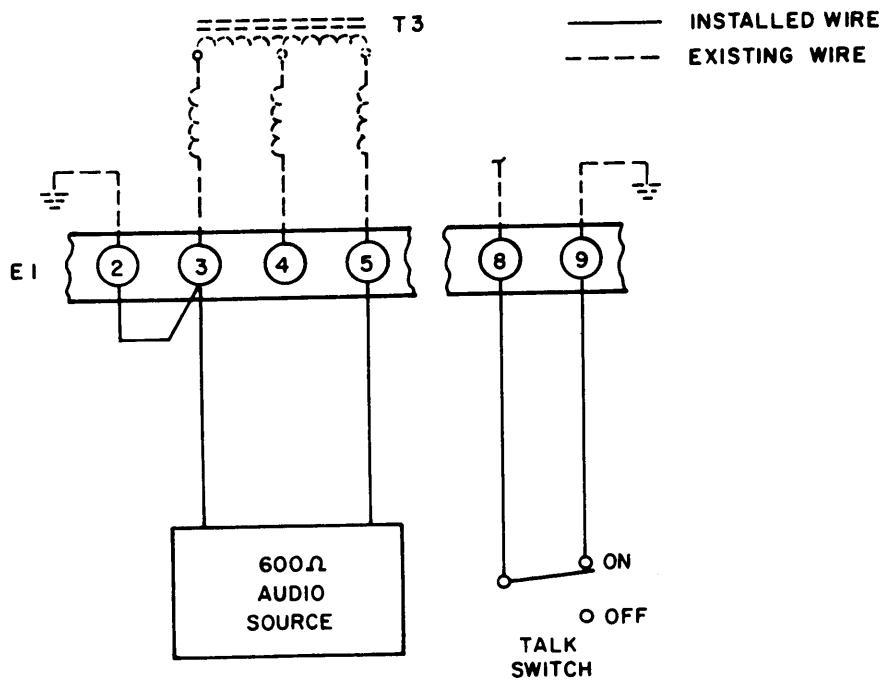

Figure 2-6. Installation Diagram, External Audio Input, Unbalanced to Ground, GPE-1.
d. EXTERNAL AUDIO INPUT (AM). A 600-ohm tape recorder, telephone or other 600-ohm audio source may be connected as shown in figures 2-6 or 2-7 for balanced or unbalanced-to-ground conditions respectively. In this case, a switch should be attached to terminals 8 and 9 of E1 to enable and disable GPE-1 and linear amplifier.
(1) FS MODE. For Frequency Shift emission, connect the output of the Frequency Shift Exciter to J3 RF connector. The Exciter output should contain frequencies in the 2-4 mc range and have an impedance of 50-70 ohms. Maximum FS input voltage into the GPE should be around 1 volt RMS. A "talk" switch should be installed similar to figures 2-6 and 2-7.
(2) ALL AM AND KEY MODES WITH EXTERNAL VFO. In order to extend selection within the 2 to 32-mc range, an external Variable Frequency Oscillator with an output containing the 2-4 mc range may be used in place of (or along with) the 2-4 mc crystal controlled oscillator in the GPE-1, by connecting its output to J3 connector. The VFO output should have an impedance in the area of 50-70 ohms and a maximum voltage of around 1-volt RMS to be fed into the GPE unit.